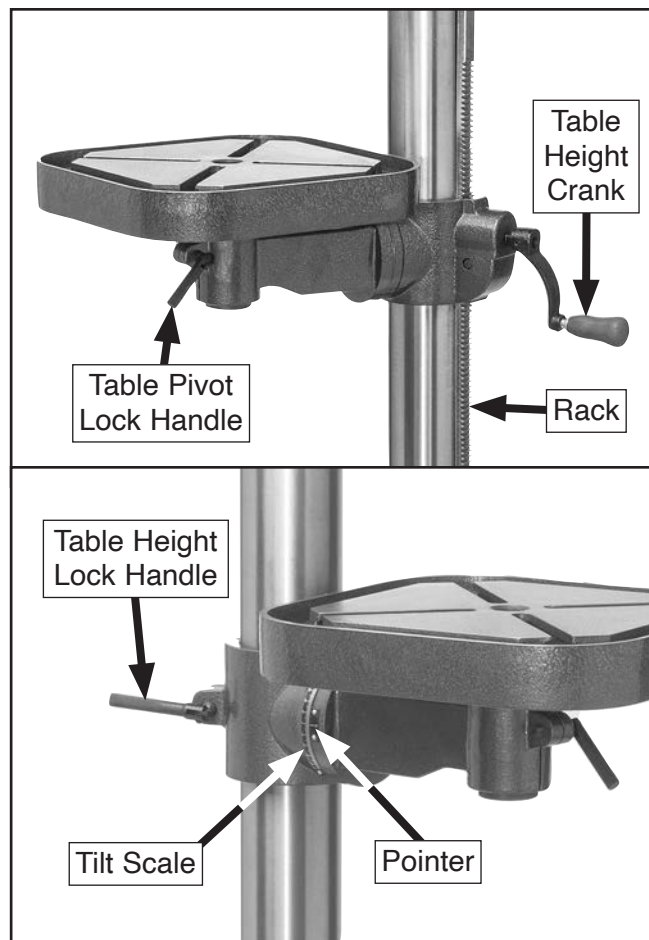

Figure 37. Table adjustment components.
The Model T33903 table moves vertically, rotates 360° around its center, rotates 360° around the column, and tilts 45° left or right. Remove any loose objects from the table surface before adjusting the table position using the controls shown in **Figure 37**.
1. Loosen table height lock handle (see **Figure 37**).
2. Raise or lower table by rotating table height crank (see **Figure 37**), then tighten table height lock handle to secure.
1. Loosen table pivot lock handle (see **Figure 37**).
2. Rotate table to desired location on column, making sure to guide column rack with table (see **Figure 37**), then tighten table height lock handle to secure.
2. Tilt table until pointer aligns with desired angle on tilt scale (see **Figure 37**).